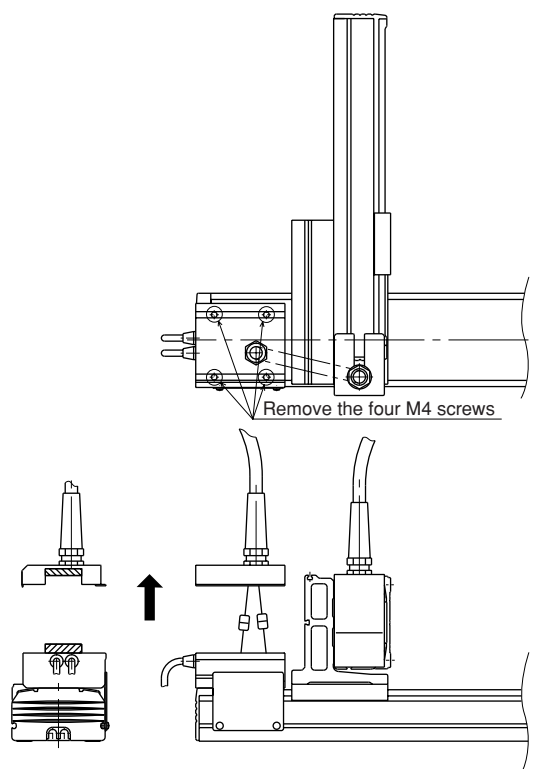

Fig. 8-10
- 1) Remove the small screws (M4, 4 screws) fixing the X-axis wiring box cover, and remove the cover. (Refer to Fig. 8-10.)